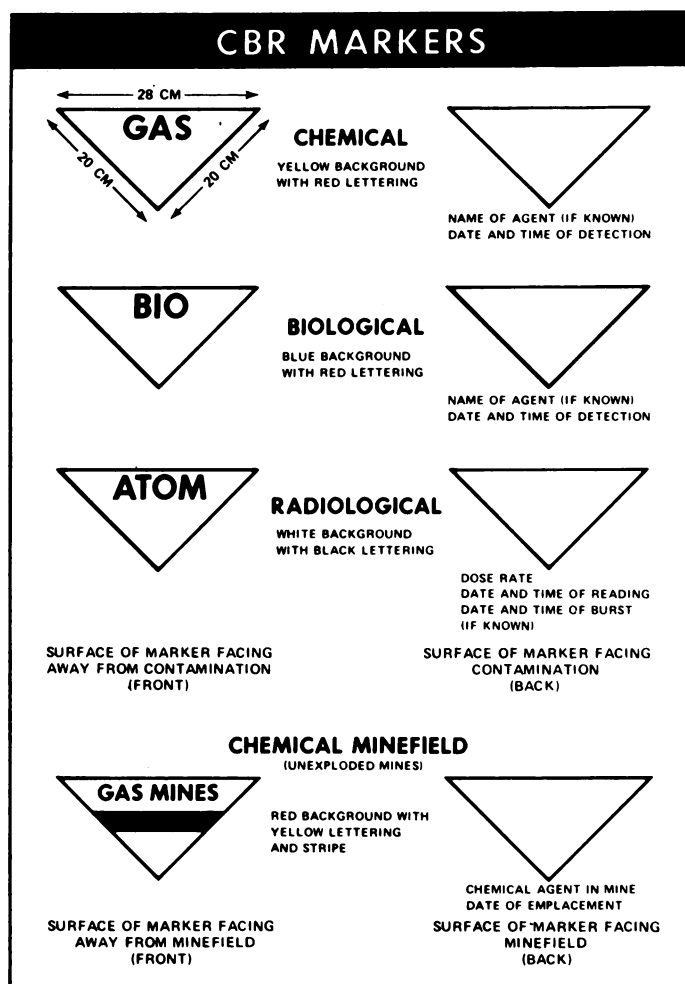

Figure 4. Markers for contaminated or dangerous land areas.
- a. To protect yourself against the effects of chemical and biological agents and nuclear radiation, you must know what areas are contaminated. Standard markers (fig. 4) are used to mark contaminated areas. Study these markers, until you can easily recognize them. Remember, however, that contaminated areas may not be marked, and you must be alert for any indication of possible contamination.
- b. Description. The markers are right-angled isosceles triangles with a base of 28 centimeters (approximately 11-1/2 inches) and sides of 20 centimeters (approximately 8 inches). The color of the marker and the word on the front indicate the type of contamination in an area. The words to be used are GAS for chemical, BIO for biological, and ATOM for radiological contamination. Information concerning the contamination will be added to the front of the marker. The identifying colors and words as well as the information to be placed on the front of each marker are included in figure 4. The standard markers will be made of wood, metal, plastic, composition board, or other rigid materials. If standard markers are not available, expedients containing the same information may be made of any suitable material.